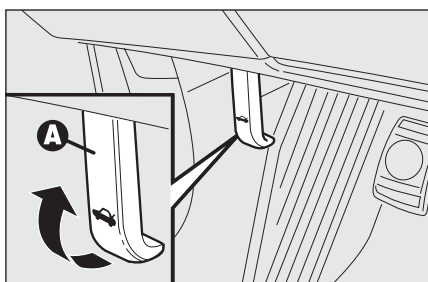

fig. 98
- ☐ pull lever **A-fig. 98** until hearing the releasing click;